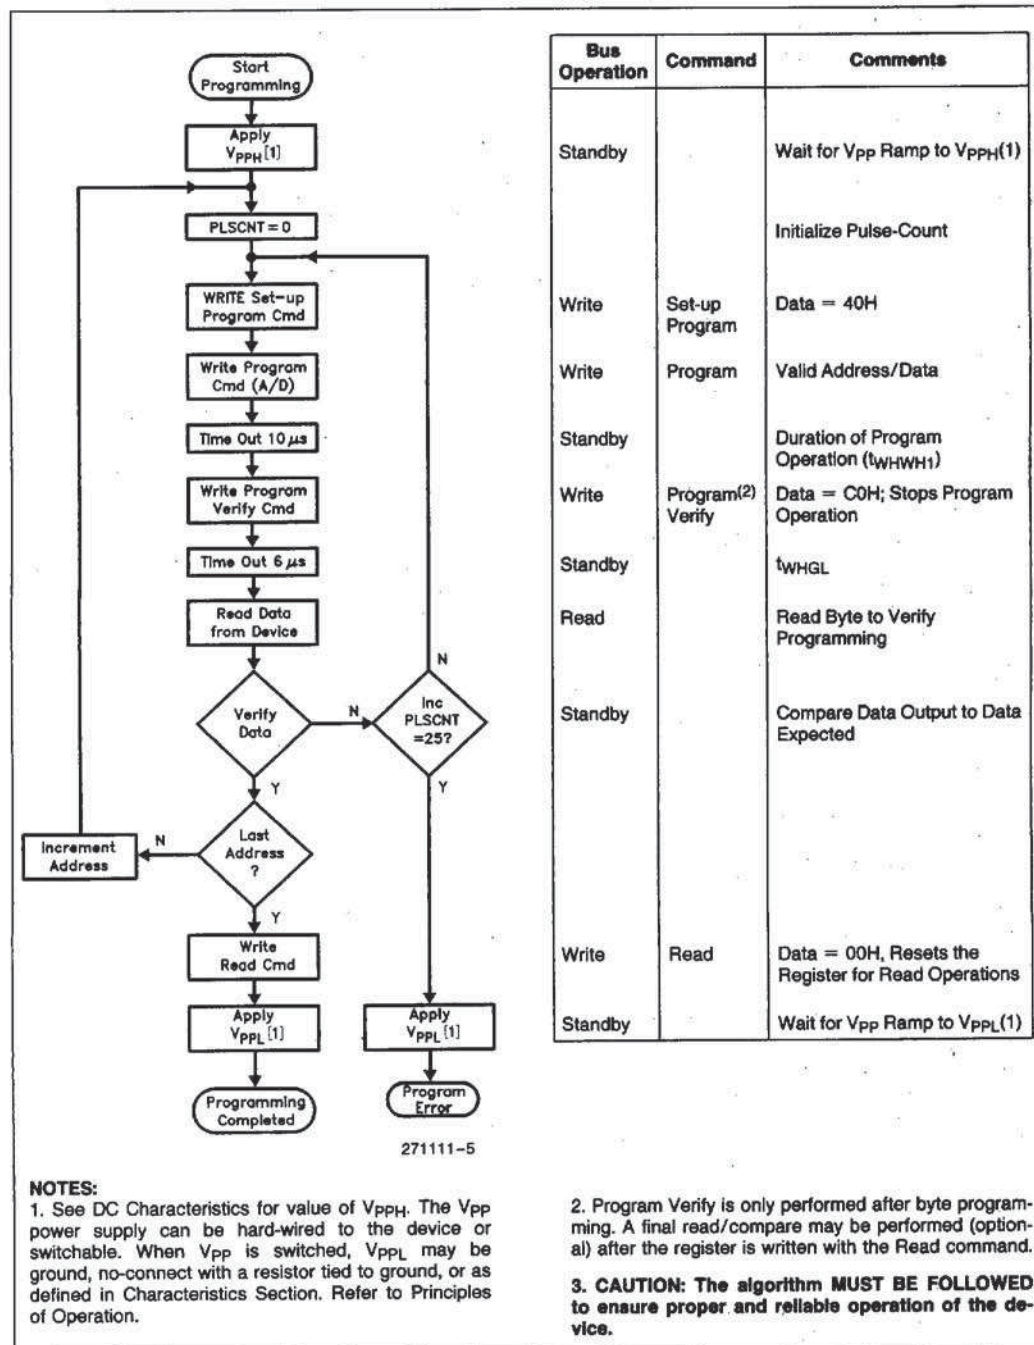

Figure 4. M28F010 Quick-Pulse Programming Algorithm
6. Figure 4 illustrates the Quick-Pulse Programming Algorithm.
The M28F010 applies an internally-generated margin voltage to the byte. A microprocessor read cycle outputs the data. A successful comparison between the programmed byte and true data means that the byte is successfully programmed. Programming then proceeds to the next desired byte location. Figure 4, the M28F010 Quick-Pulse Programming algorithm, illustrates how commands are combined with bus operations to perform byte programming. Refer to AC Programming Characteristics and Waveforms for specific timing parameters.
The Quick-Pulse Programming algorithm uses programming operations of 10 μ s duration. Each operation is followed by a byte verification to determine when the addressed byte has been successfully programmed. The algorithm allows for up to 25 programming operations per byte, although most bytes verify on the first or second operation. The entire sequence of programming and byte verification is performed with Vpp at high voltage. Figure 4 illustrates the Quick-Pulse Programming algorithm.